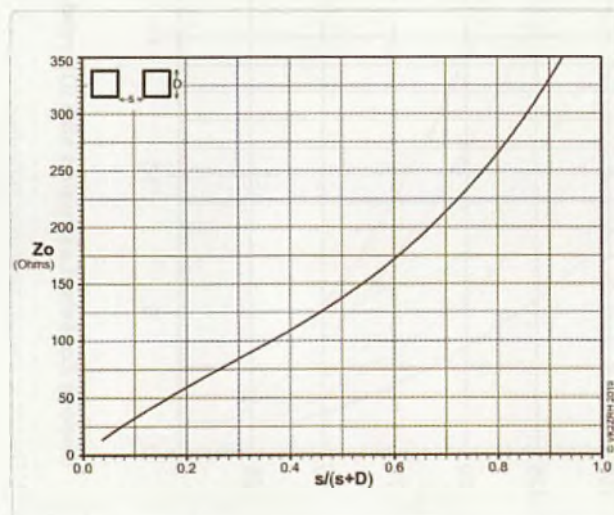

Figure 9. Zo versus the shape ratio for close-spaced square-section parallel transmission lines.
Image A: Illustrating the fields created around square-section, close-spaced parallel feedlines. In the larger figure, the encircling lines each show constant values of field strength, while the inset shows field intensity contoured in ‘false colour’. Note the field concentration at the points of each square section and between the parallel faces. Note, also, how the field strength falls away quickly the further out you go left and right, but doesn't decline as fast going up and down. The face-to-face spacing here (s) equals the side dimension of the square (D). Thus, the $s/(s + D)$ ratio is 0.5. From Figure 9, the impedance is about 134 ohms; it remains the same with feedlines of different sizes, provided you maintain the ratio. Images created by Andy VK3ES, Phasor Innovation Pty Ltd, www.phasorinnovation.com.
Figure 9 shows the "cubic for squares" plot without the clutter. Note that the curve does not reach the zero point. Accuracy deteriorates below about 15-16 ohms
The snake-bend of the curve in Figure 9 would appear to derive from a balance between the strength of the field between the faces and the sum of the fringing fields surrounding the lines. At wide spacing, the fringing fields have proportionally more influence. As the spacing narrows, the between-faces field begins to dominate until it has the dominant influence.